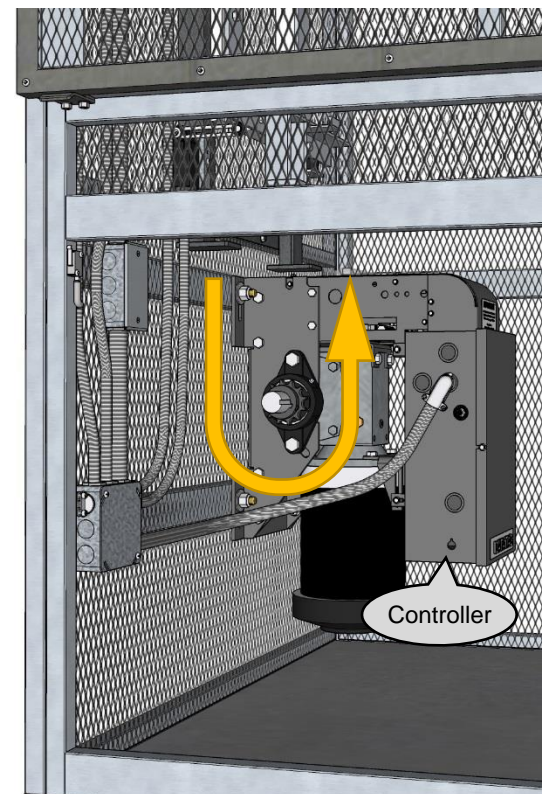

Figure 18
- 3** Watch the rotation of the sprocket when the up contactor is pressed. If the direction of rotation is not the same direction as shown in **Figure 18**, go on to **Step 4**. If the direction of rotation is the same as shown in **Figure 18**, go on to **Step 5**.